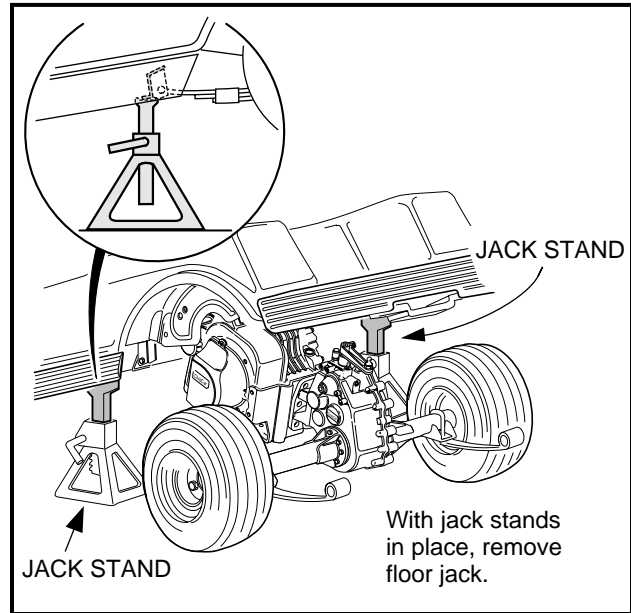

Figure 16-27 Position Jack Stands
10. Position jack stands, adjusted to support the vehicle at this height, under the frame cross-member between the leaf spring mounts and side stringers, just forward of each rear wheel. Lower the floor jack to allow the jack stands to support the vehicle (**Figure 16-27, Page 16-12**).